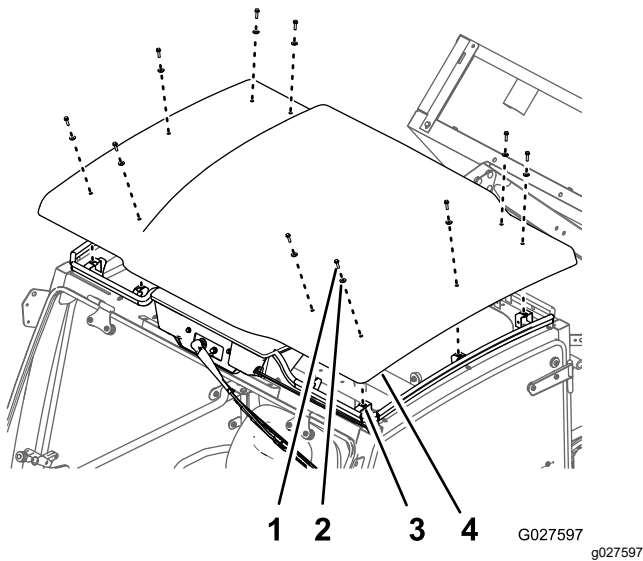

Figure 13
1. Remove the 10 bolts (1/4 x 1 inch) and 10 sealing washers (1/4 inch) that secure the roof panel to the roof-support brackets of the cab (Figure 13).